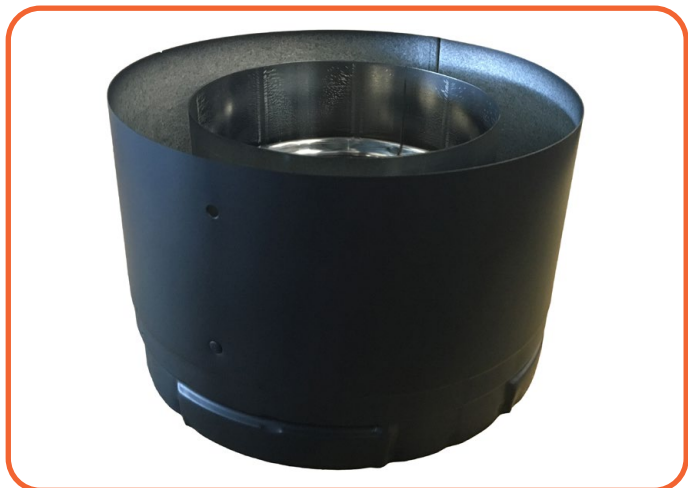

Figure 8.1 | North American vent adapter (5/8")
- This fireplace is shipped with a North American venting adapter (see Figure 8.1). It MUST attach to the vent collar of the fireplace.